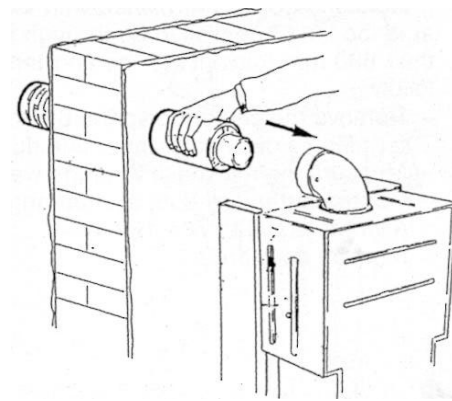

Fig. 35
- 5.7.6 Working above the boiler pull the flue duct towards the elbow in order to engage tube into its header (Fig. 35). Position flue into straight header and push so as to locate inner and outer flue correctly. Ensuring good seal is made with o.rings.